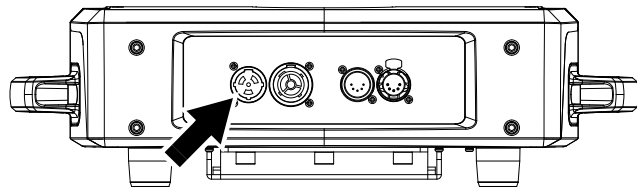

Figure 7: Mains input socket
2. See Figure 7. line up the keys in the power input cable's TRUE1 connector with the keyways in the MAINS IN socket (arrowed). Insert the connector into the socket and twist clockwise to engage. If the connector seems difficult to twist, remove it from the socket, check that you have lined up the keyways correctly and try again – do not use excessive force. Make sure that the connector latch clicks and that the connector is locked into the socket.